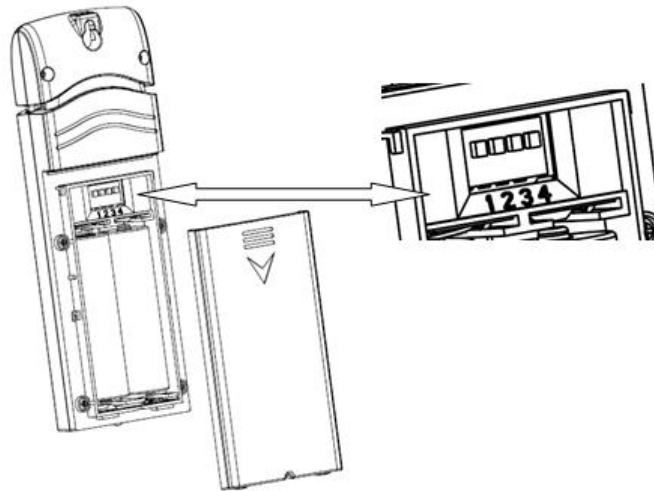

Figure 31
- 1 Remove the battery door on the back of the transmitter(s) by sliding down the battery door, as shown in Figure 31
- 3 **Channel Number:** This item supports up to eight transmitters. To set each channel number (the default is Channel 1), change Dip Switches 1, 2 and 3, as referenced in Figure 31.